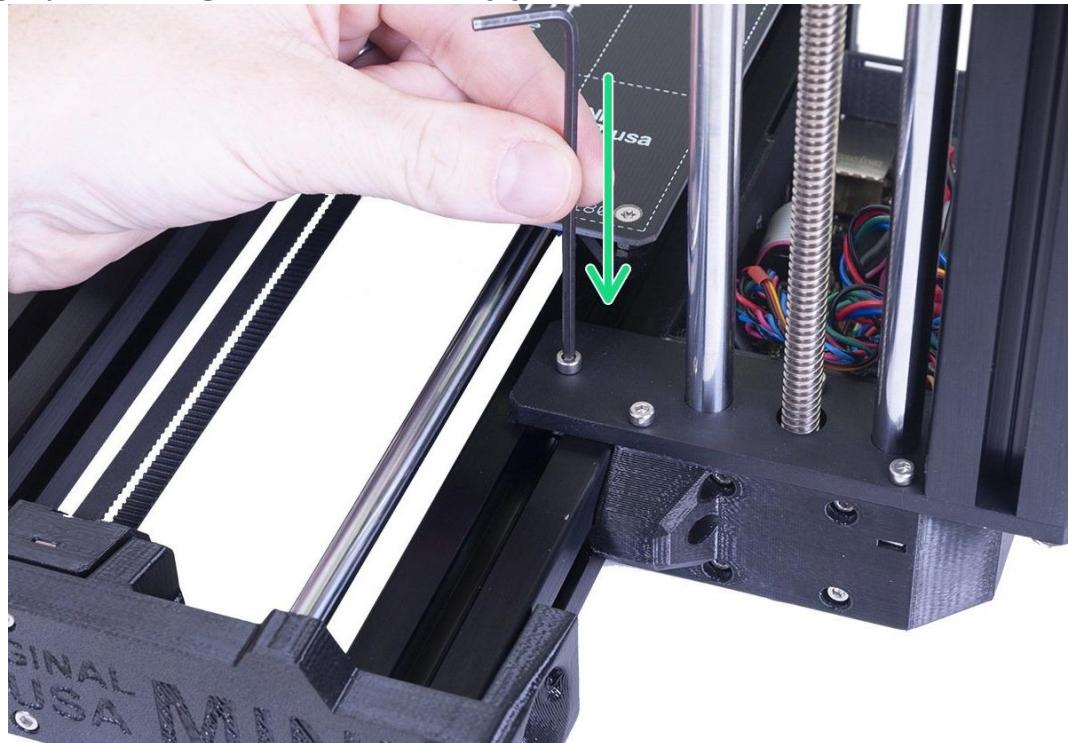

Figure 5.1.15
- C:** As shown in Figure 5.1.15. Fix both parts together using the M3x12 screw, tighten it slightly. **DON'T tighten the screw fully yet!**